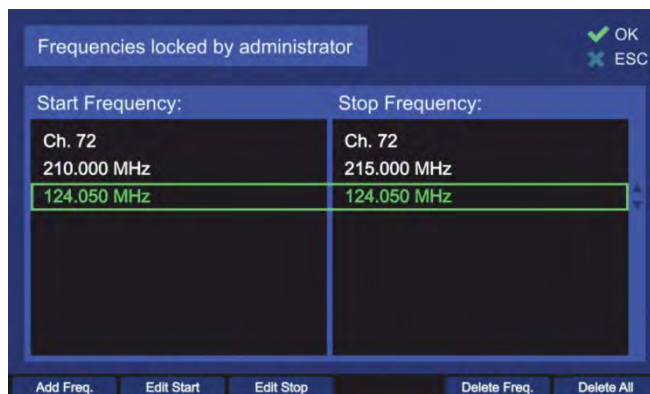

Figure 76. Locked frequencies. Administrator view
- 1) Press the “See locks” hotkey in the “Freq. Info” dialog. The window, which is shown in Figure 76 appears.